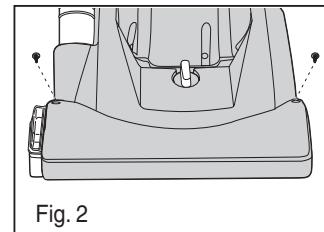

Fig. 2
- 2) Remove 2 screws from brush roll cover. (Fig. 2).
2) **Base hose** – remove 2 screws and brush roll cover. Clear blockage from base hose. Check for debris in brush roll and replace screws and cover (Fig 2).